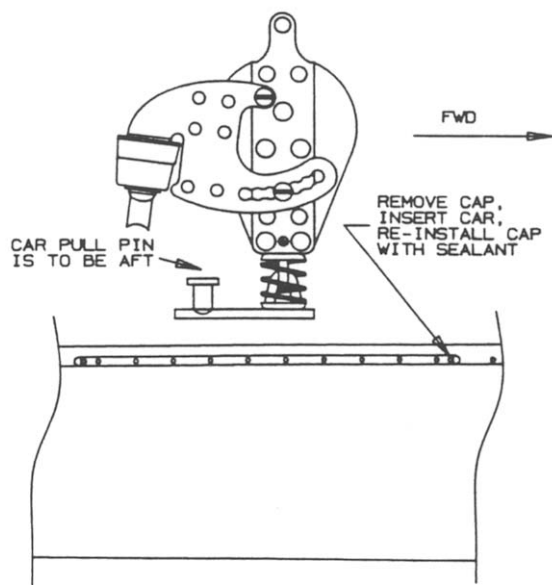

FIGURE 39
21.1 Remove the end stop of the left jib track located on the hull. Insert one of the jib blocks into the track with the slide adjustment on the block facing the rear of the boat. (FIGURE 39)